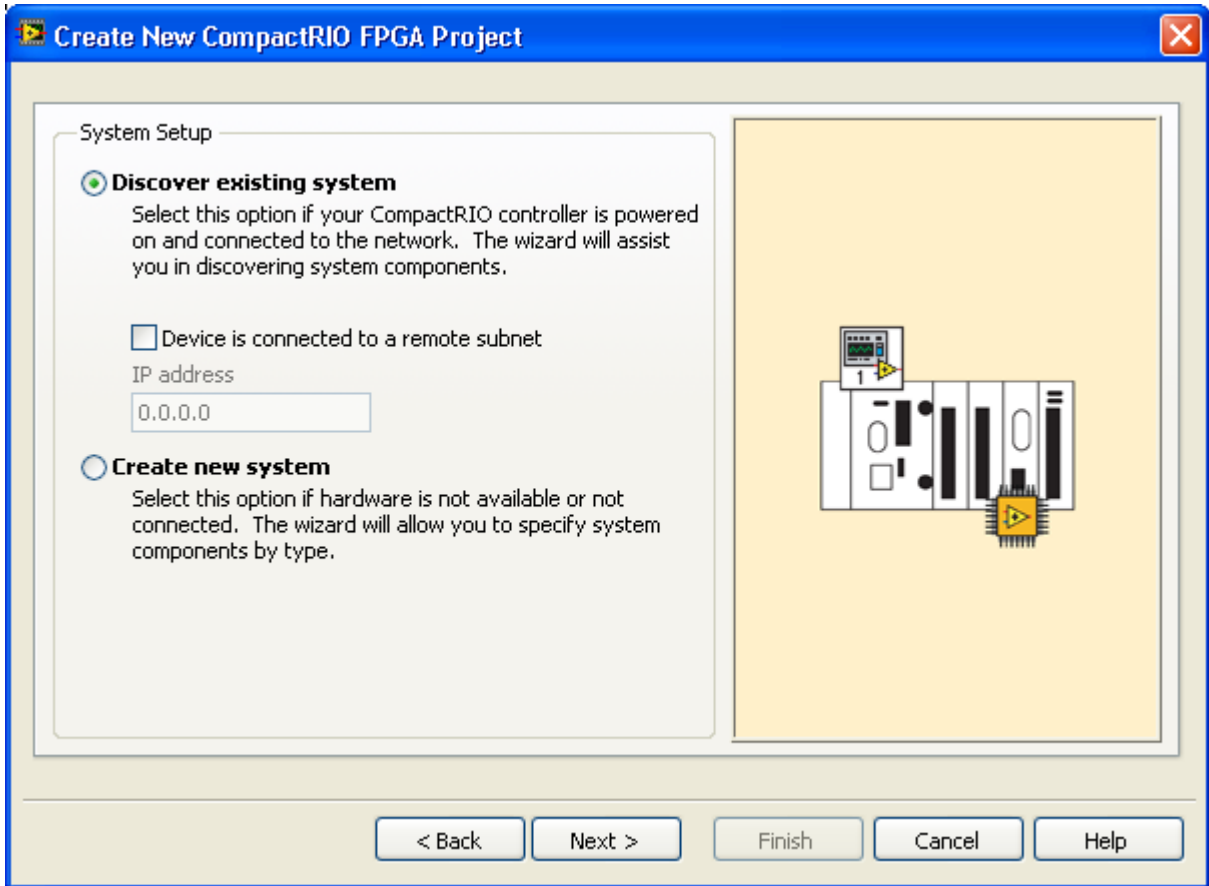

Figure A3 Create New CompactRIO FPGA Project Window- Discover existing system
3. In the next window (Figure A3), select either **Discover existing system** or Create new system. We will pursue further with the former choice, “Discover existing system” (It refers to the existing hardware). If you are sure that the cRIO device is connected and has an IP address, then also select “Device is connected to a remote Subnet” and enter the device’s IP address.